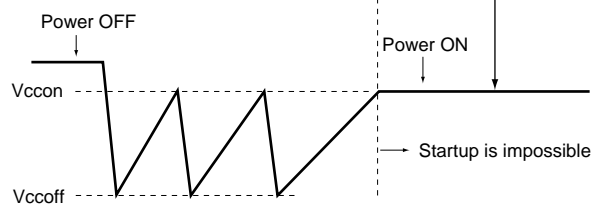

Fig. 22 Image of VCC waveform when re-startup is impossible
After power-off, once VCC falls down below OFF threshold voltage, VCC rises up again and re-startup occurs while the capacitor C1 is discharged until approximately zero because VCC voltage rises up by the current flowing RA. This operation is repeated several times. After the repeated operation, IC stops in the condition that VCC voltage is equal to VCCON (=ON threshold) because capacitor C1 is discharged gradually and the decreased VCC inclination is out of the condition required by equation (4). After that, re-startup by power-on can not be guaranteed even when equation (8) is satisfied. The image of that the startup is impossible is shown in Fig. 22. It is necessary to startup IC that supply current Icc (startup) to VCC is over 4mA in the condition of Tj < 100 °C during Vcc is kept at VCCON (=16V, balance state at VCCON after the repeated operation.